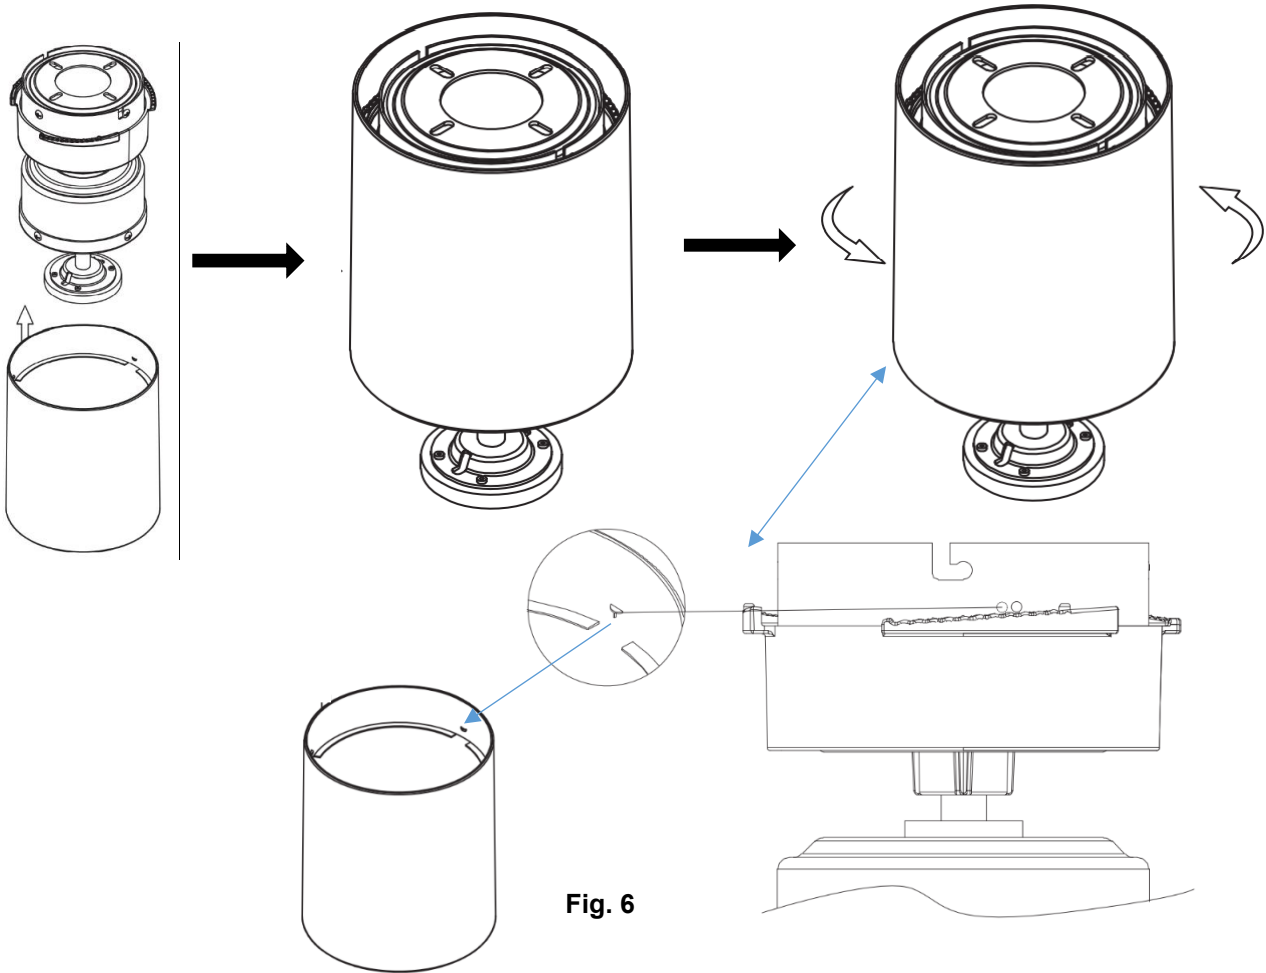

Fig. 6
- Finally attach the motor housing to the fan assembly, and secure it by pushing the stuck-point of motor housing onto the plastic toothed gear of fan assembly, and turn it anti clockwise. (Fig.6)